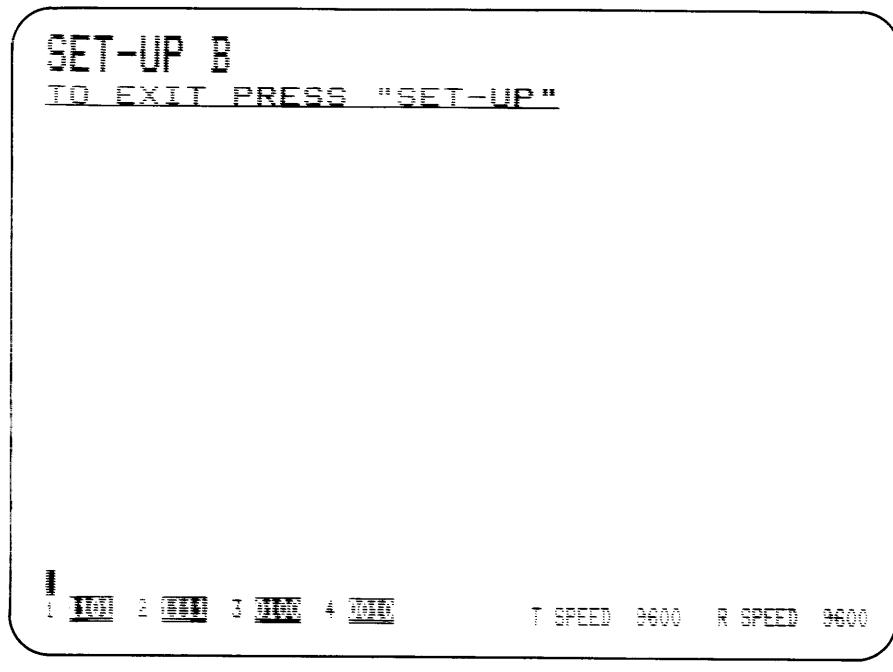

Figure 1-5
**SET-UP B** – SET-UP B mode may only be entered from SET-UP A mode. To enter SET-UP B from SET-UP A, press the **5** key on the main keyboard. The display will then look like Figure 1-5.